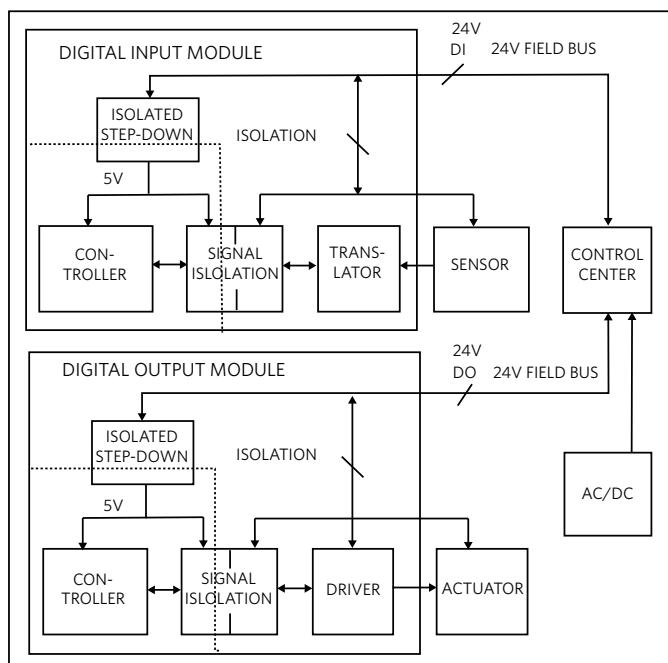

Figure 2. Digital I/O module and factory system block diagram
Figure 2 illustrates a generic digital I/O module and factory system block diagram. A central hub takes the AC line power and converts it to 24V DC, delivered to the I/O module together with the corresponding digital input (DI) and digital output (DO) data. The factory environment is harsh, with electric and magnetic interferences and overvoltages, requiring protection